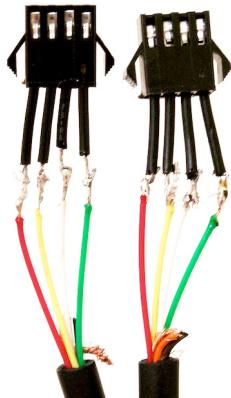

Figure 14-11 All four wires are cut very short
1. Cut the wires short on two male connectors, and strip the ends (see Figure 14-11).